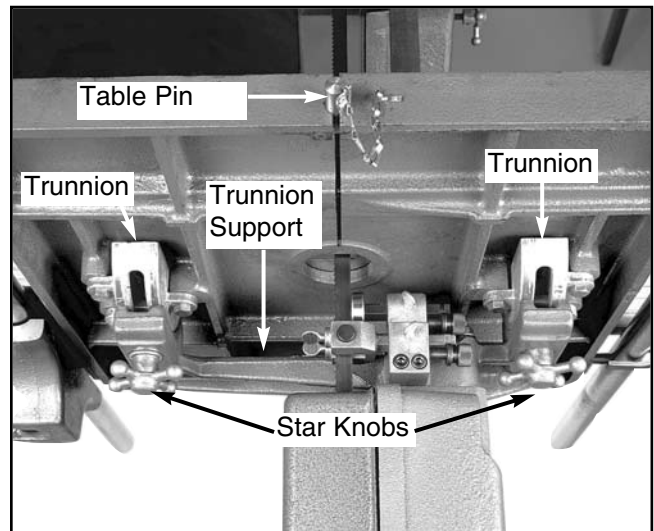

Figure 12. Under table controls.
6. Secure the table to the trunnion supports by tightening the two star knobs onto the trunnion bolts shown in **Figure 12**.